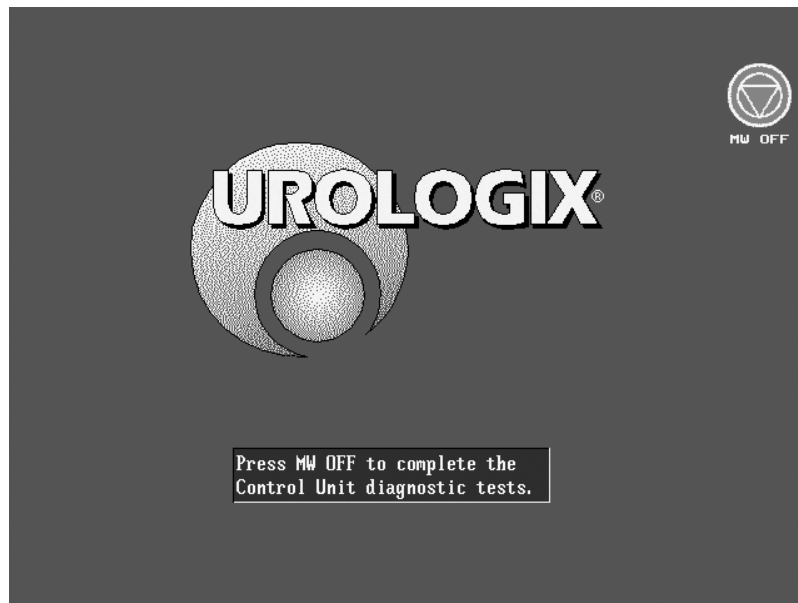

Figure 2-1: Startup Display Screen
1. Turn on the Targis Control Unit by pressing the ON / OFF switch (located on the right side of the unit) to the “|” position. The Control Unit then proceeds with its startup routine. Verify that the Startup display Screen (*figure 2-1*) is displayed on the monitor.